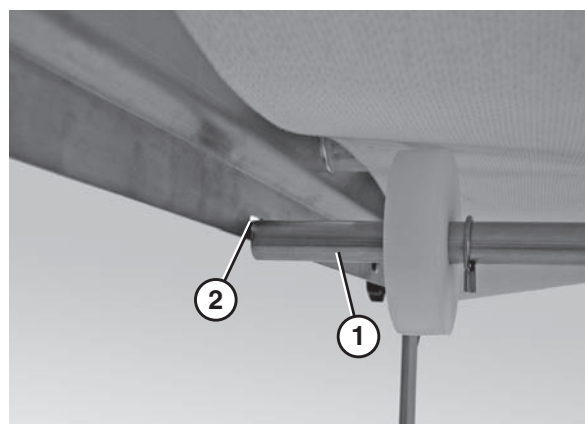

Figure 25
2. Push up on the return shaft (**Figure 25, item 1**) and slide the notched end of the shaft through the small slot (**Figure 25, item 2**) on the opposite side of the frame.